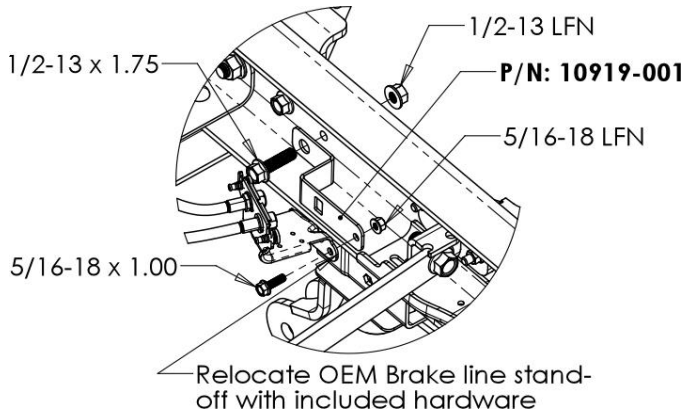

Figure 12: Install Brake line standoff bracket
- Using the tie plate mount as a template, mark the third mounting hole in the frame and drill to Ø13/32 to allow mounting with 3/8" hardware. See Fig. 12
P/N: 10919-001. See Figure 12